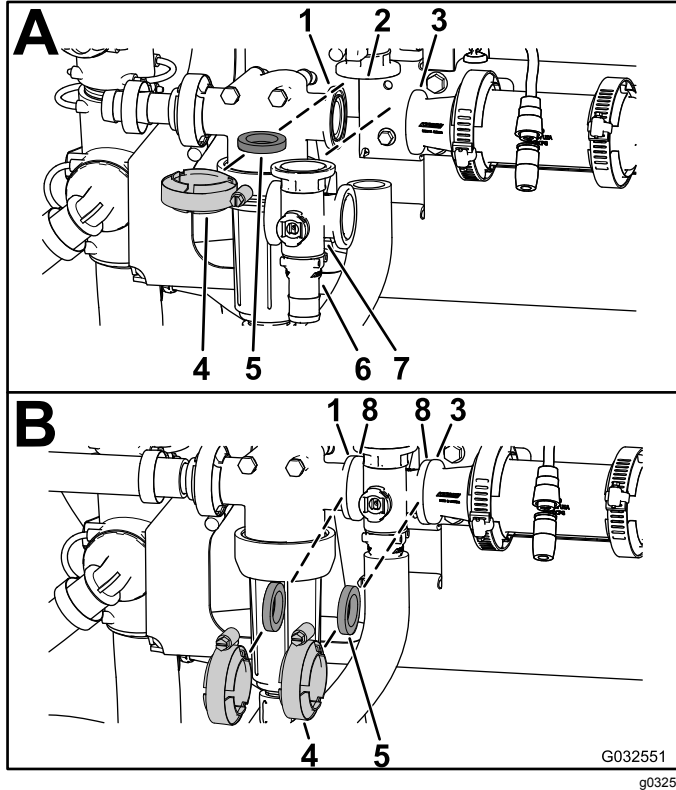

Figure 109
1. Align the flange of the agitation-bypass valve, a gasket, and the end-cap-fitting flange of the agitation-valve manifold (A of Figure 109).
2. Assemble the agitation-bypass valve, gasket, and agitation-valve manifold with a clamp tightened hand tight (A of Figure 109).
3. Secure the quick connect to the bypass fitting by inserting a retainer into the socket of the bypass fitting (A of Figure 109).
4. Align a gasket between the flanges of the pressure-filter head and the agitation-valve manifold (B of Figure 109).
5. Assemble the pressure-filter head, gasket, and agitation-valve manifold with a clamp tightened hand tight (B of Figure 109).
6. Align a gasket between the flanges of the agitation-valve manifold and the reducer coupling (B of Figure 109).
7. Assemble the agitation-valve manifold, gasket, and reducer coupling with a clamp tightened hand tight (B of Figure 109).